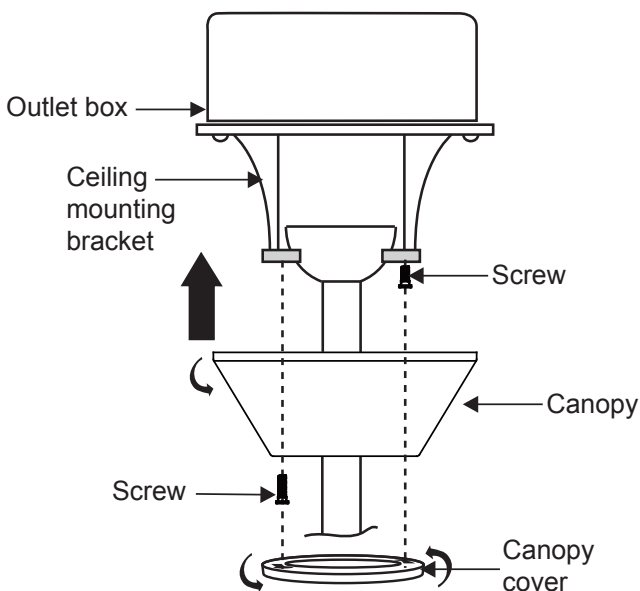

Fig. 15
**Step 2.** Remove one screw from ceiling mounting bracket, and loosen but do not remove the other screw, slide the canopy up to the mounting bracket and place one of the key hole slots over the mounting screw on the mounting bracket. Rotate the canopy until the screw head locks in place at the narrow section of the key hole. (Fig.15)